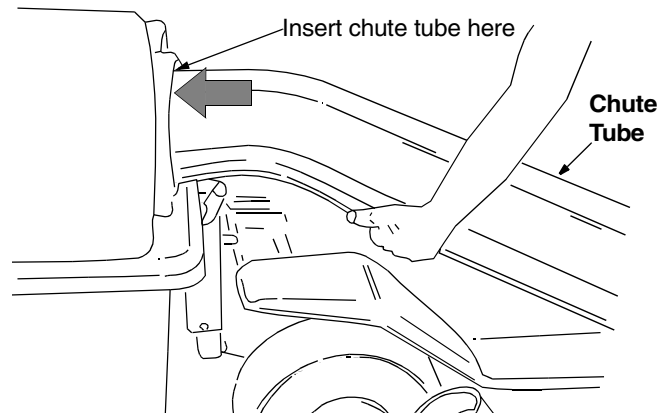

Figure 8
- Insert the curved end of chute tube into the hole in the grass bag cover. See Figure 8.